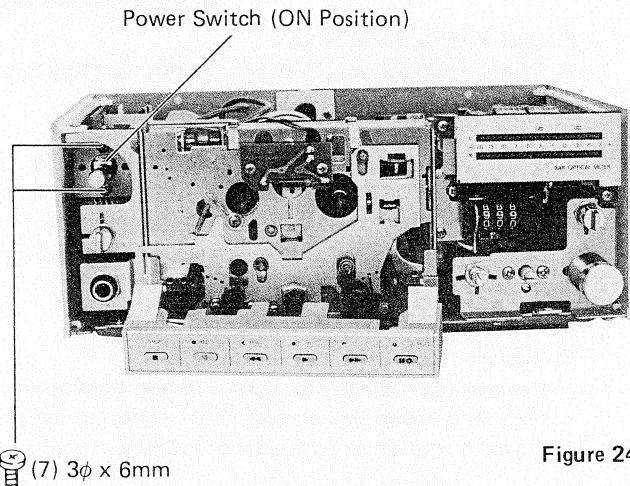

Figure 24
4. After pushing power switch to position, remove two screws (7) ($3\phi \times 6mm$) holding mounting bracket as shown in Figure 24.